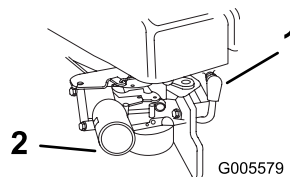

Figure 12
1. Connect the wire to the spark plug (Figure 12).
3. Push in the primer 3 times, waiting one second between each push (Figure 12).
2. Disconnect the wire from the spark plug (Figure 12).